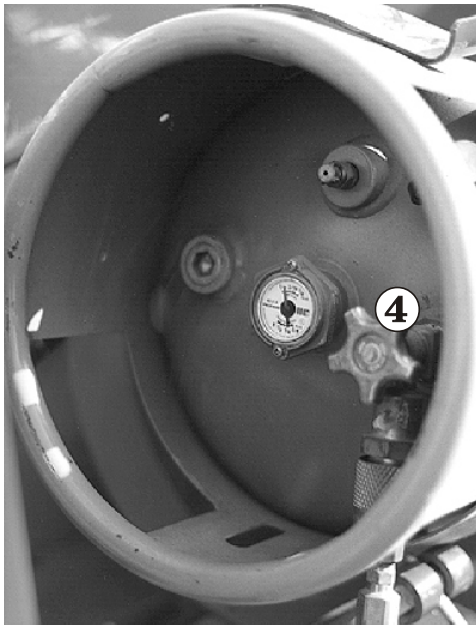

Figure 8.5
Completely open the valve ④ (see Figure 8.5) on top of the LP tank (unscrew counterclockwise until it stops).